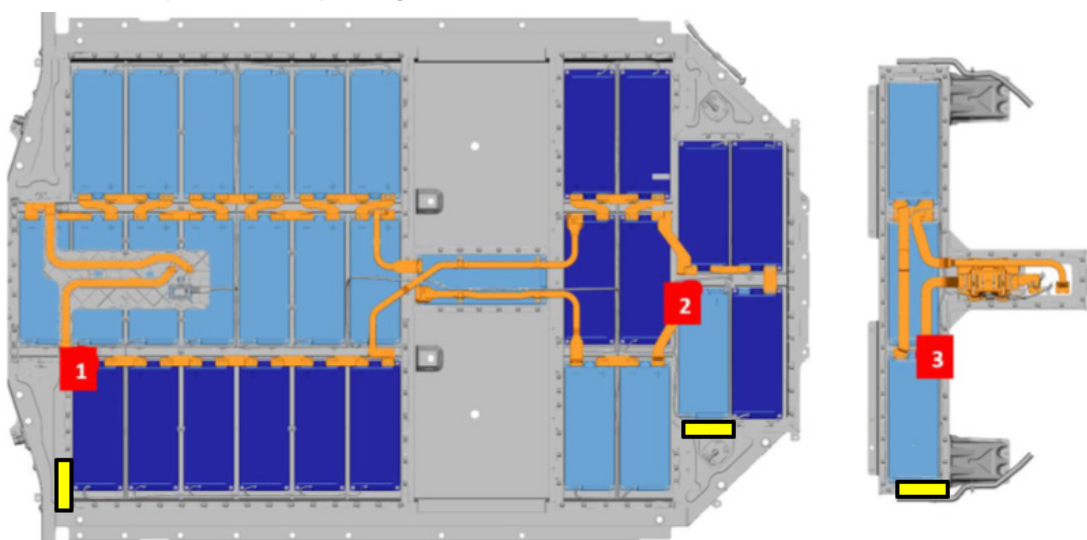

Figure 3 - 33-module HV Battery measurement points
DST Procedure for 33-module Taycan Battery Pack (Figure 3)
- The yellow boxes in *Figure 3* designate the section of frame where a lid screw can be hand-started to ground the dielectric strength tester. If performing a DST on the mid-pack fuse, use the location on the upper "T" section to ground the negative clamp.